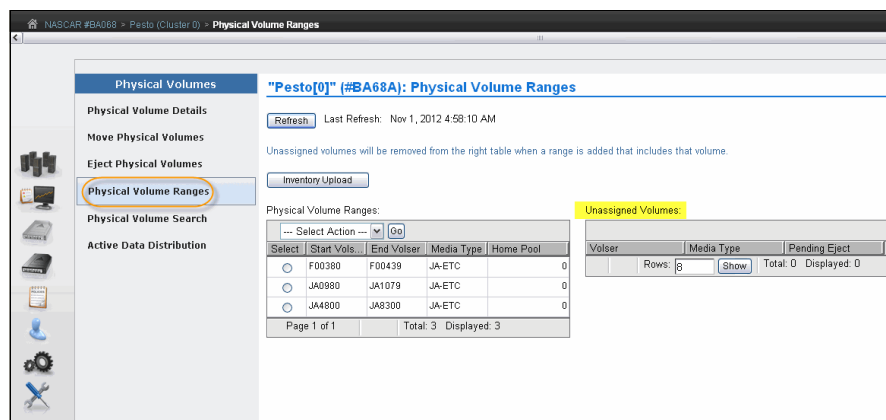

Figure 9-164 Physical Volume Ranges window
5. For a TS7700T cluster, click **Physical** → **Physical Volumes** → **Physical Volume Ranges** and click **Inventory Upload**, as shown in Figure 9-164 on page 529
8. For a TS7700T cluster, click **Physical** → **Physical Volumes** → **Physical Volume Ranges** and click **Inventory Upload**, as shown in Figure 9-164 on page 529.
Use the window that is shown in Figure 9-164 to add, modify, and delete physical volume ranges. Unassigned physical volumes are listed in this window. If a volume is listed as unassigned volume, and this volume belongs to this TS7700, a new range should be added including that volume to fix it. If an unassigned volume does not belong to this TS7700 cluster, it should be ejected and reassigned to the proper logical library in the physical tape library.
Figure 9-164 on page 529 shows the status information that is displayed in the VOLSER Ranges table: